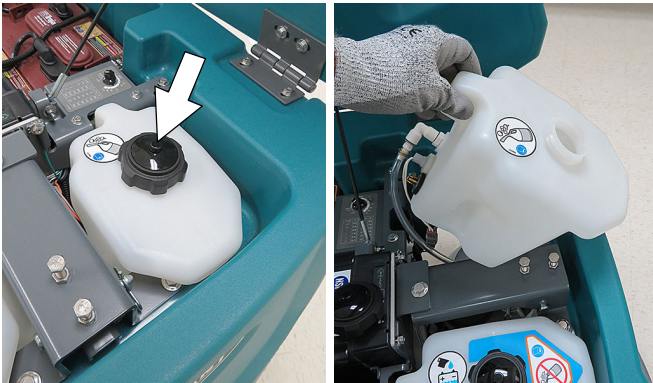

FIG. 149
3. Pour 1 gallon / 4 liters of propylene glycol based recreational vehicle (RV) antifreeze into the solution tank.
Models equipped with optional Severe Environment detergent tank - Lift tank from machine and empty the detergent from tank (Figure 149). Return tank. Pour a 1/4 gallon / 1 liter of propylene glycol based recreational vehicle (RV) antifreeze into the detergent tank.